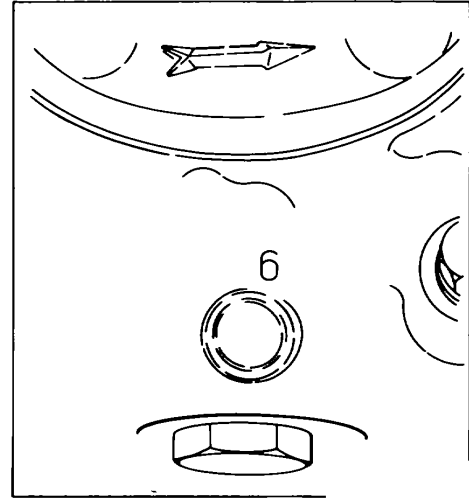

Figure 113.
a. In the area of the trade mark, cast in the cover, will be stamped a "6" or a "4" denoting a Model 60 or a Model 45 respectively. See Fig. 113